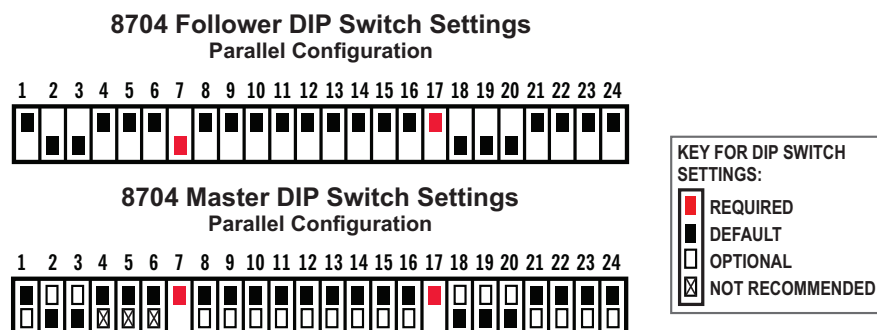

Figure 7.7 – Required DIP switch settings for parallel amplifiers
1. Refer to **Figure 7.7** to configure each amplifier's DIP switches for parallel operation. On the amplifier designated as Follower, **set DIP switch #7 in the DOWN (Follower) position.** On both amplifiers, **set DIP switch #17 in the UP (Electronic Gain Matching ON) position.** Note that other configuration settings controlled by DIP switches can also be selected before operation. In an 8704 multi-amp system, **all settings except for Control Configuration (SW#7) and Electronic Gain Matching (SW#17) are controlled by the Master amplifier.** For these additional configurations, setting of the DIP switches on the Follower amplifier is not required.